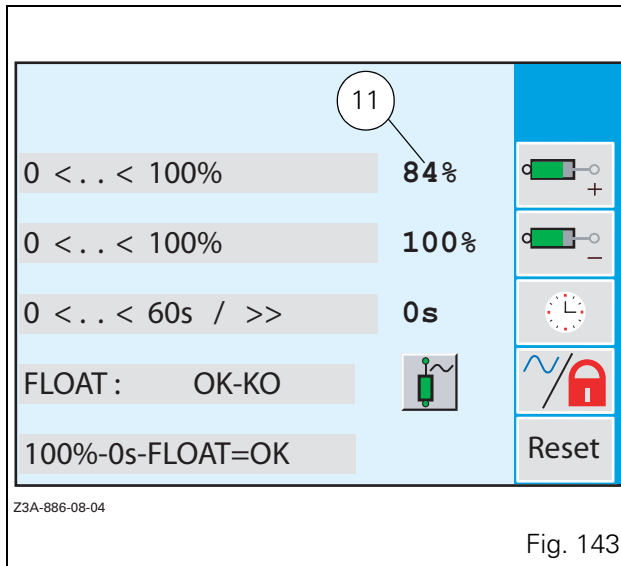

Fig. 143
- Validate the selected value by either pressing the encoder, or by pressing key «2. The value is displayed in black (11 Fig. 143).